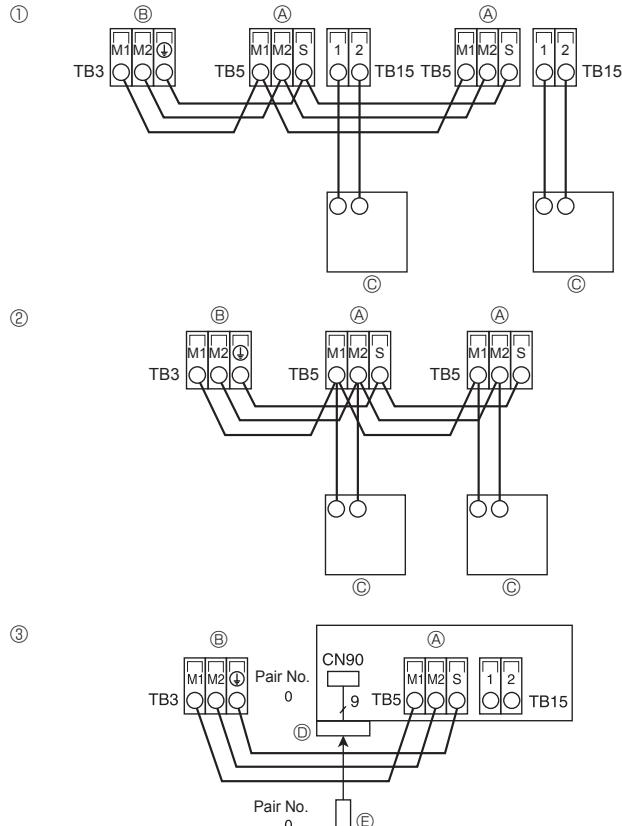
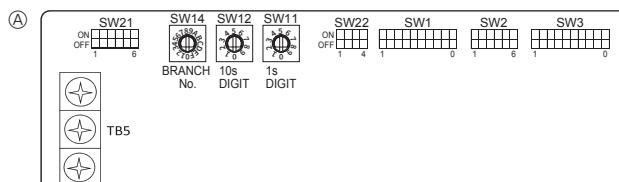

Fig. 5-9
Fig. 5-10
5.5. Connecting remote controller, indoor and outdoor transmission cables (Fig. 5-9)
- ① MA Remote controller
- ② M-NET Remote controller
- ③ Wireless remote controller (When installing wireless signal receiver)
- ④ Terminal block for indoor transmission cable
⑤ Terminal block for outdoor transmission cable (M1(A), M2(B), S(S))
⑥ Remote controller
⑦ wireless signal receiver
⑧ wireless remote controller
5.6. Setting addresses (Fig. 5-10)
5.7. Switch setting for high ceiling or at the time of changing the number of air outlets (Fig. 5-10)
5.8. Sensing room temperature with the built-in sensor in a remote controller (Fig. 5-10)